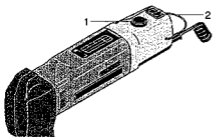

Fig. 3
1. Switch on tool at switch 2 (Fig. 3) and set the appropriate speed for the work at knob 1.